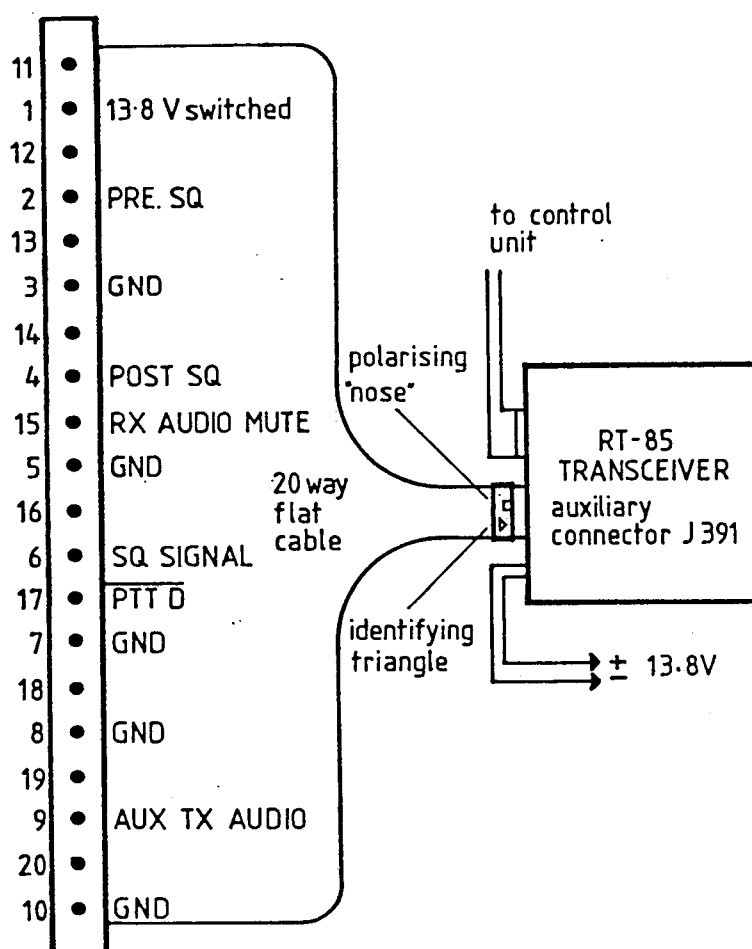

Fig. D-4 Auxiliary Connector Outputs
4. Connect the high impedance audio voltmeter (N & D Meter) to pre-squelch output J391 pin 2, with ground J391 pin 3 (see Fig. D-4 on page D.3 - 2).
6. Connect the high impedance audio voltmeter (N & D Meter) to post-squelch output J391 pin 4, with J391 pin 3 ground (see Fig. D-4 on page D.3 - 2).
5. Connect a dc voltmeter to auxiliary connector J391 pin 6 (positive) to ground pin 5 (negative), (see Fig. D-4 below).